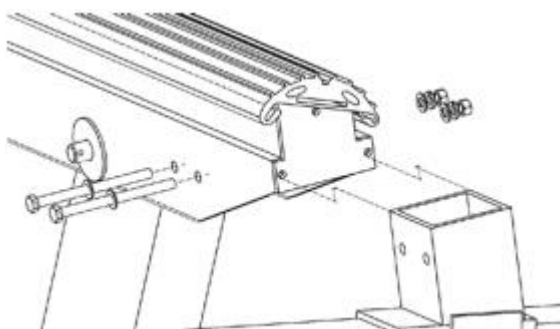

Figure 16
1. Insert the Guide Pole Mounting Bracket into the bottom of the Bunk support as depicted in Figure 16.
3. Attach one (1) 3/8" Flat Washer over two (2) Hex Bolts and insert into the corresponding holes in the Bunk support as depicted in Figure 16.
4. Attach one (1) Lock Washer and one (1) Hex Nut to each of the protruding Hex bolts and fasten with appropriate wrench until secure.
5. Repeat this step three (3) more times, once for the opposite end of the Bunk, and twice for the second Bunk.